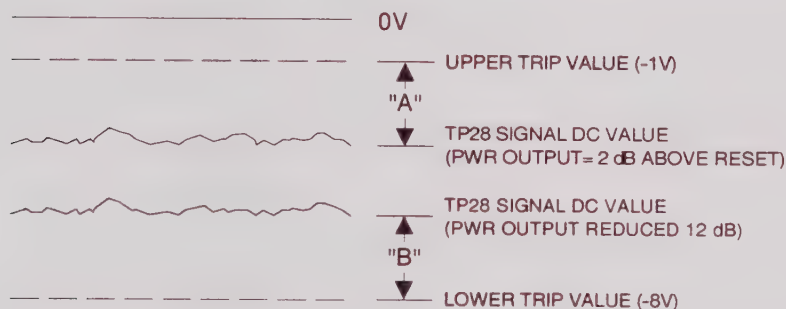

Figure 6-21. RF Models ALC Operating Point Adjustment Point Diagram
- Note that this value is nominally 2.5V below the -1V “Upper Trip” value shown in Figure 6-21. This difference value is labeled “A” in Figure 6-21.